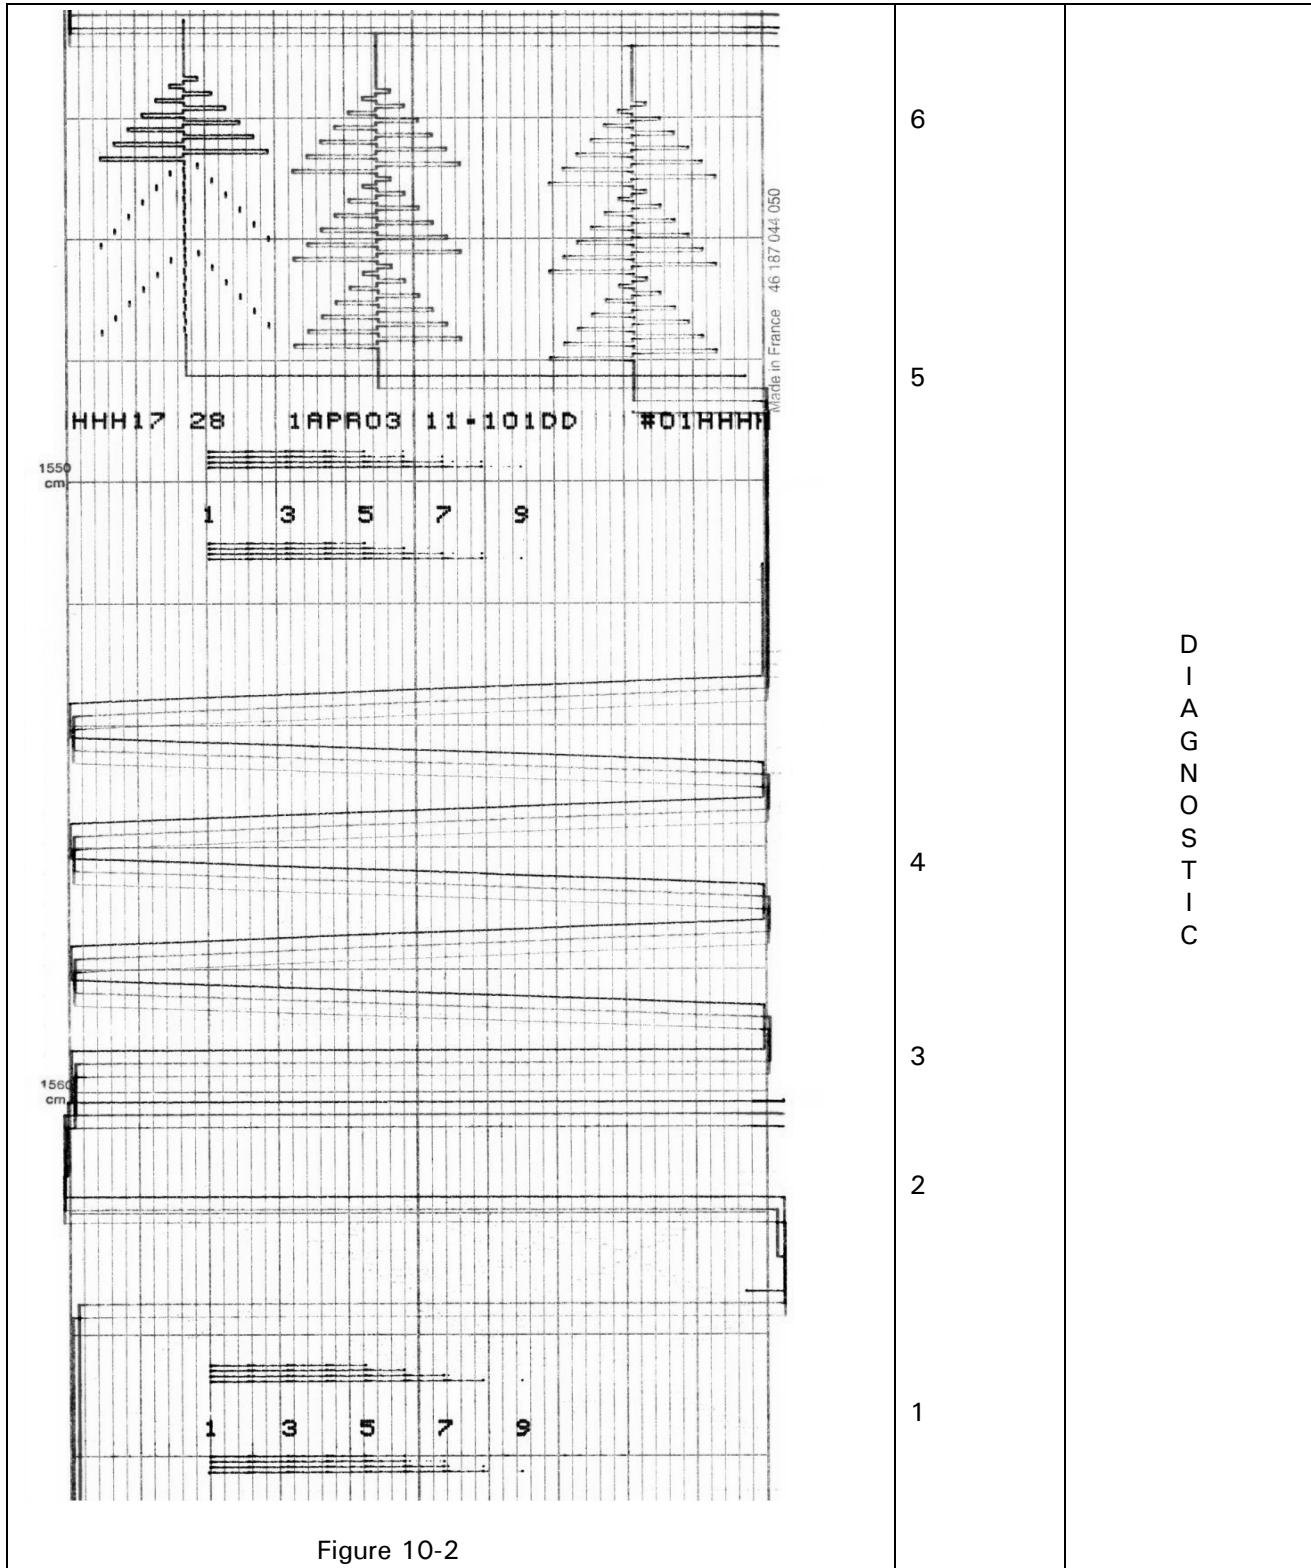

Figure 10-2
- (See fig. 10-2)
9 The figure 10-2 ref. 1 shows the check-test for the height pen 1 adjustment.
- ✓ The figure 10-2 ref. 2 shows the test of mechanical extremes. The vertical line(s) on the right must be over the 100 % chart. The vertical line(s) on the left must be under the 0 % chart.
- ✓ The figure 10-2 ref. 3 shows the adjustment of the recorder. If the recorder is calibrated, the vertical lines must be written at the same place as the 0 % and the 100 % chart.
- ✓ The figure 10-2 ref. 4 shows the test for chart advance with a diagram written every 20 mm.
- ✓ The figure 10-2 ref. 5 shows the message.
- ✓ The figure 10-2 ref. 6 is composed of 3 identical patterns for the pens 2 and 3 and the graph for pen 1 is discontinuous on the two first patterns.